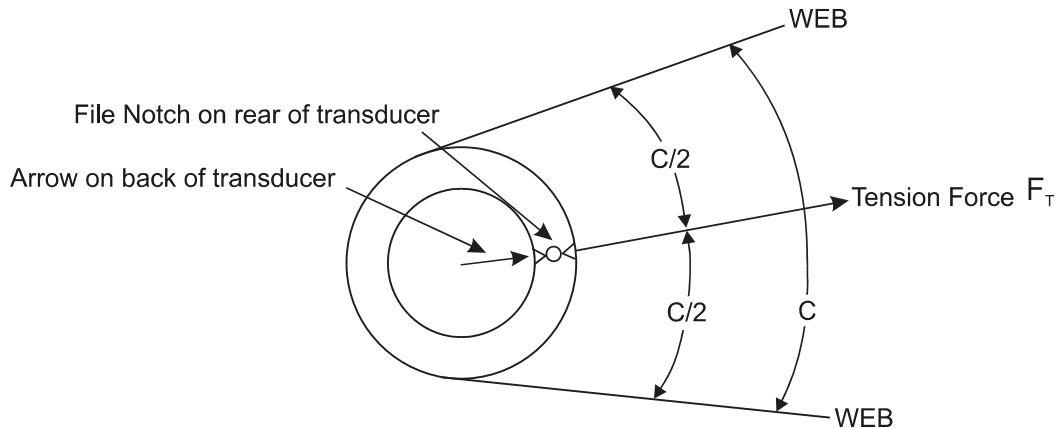

Figure 8 - TENSION FORCE DIRECTION
4. ORIENTATE THE TRANSDUCERS (see Figure 8)